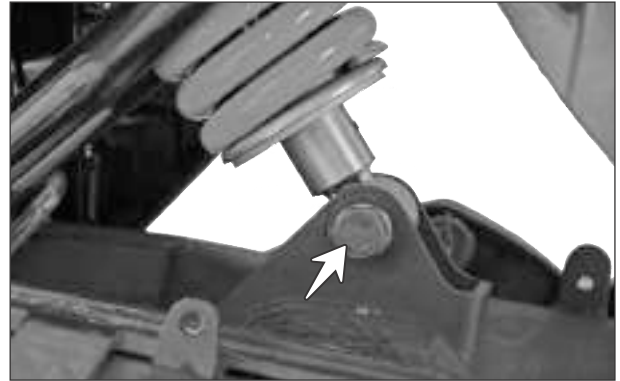

Fig. 6.137
- Remove the hexagonal bolt (M12x55) along with punched washer from the bottom mounting of shockabsorber rear shock absorber. (Fig. 6.137)